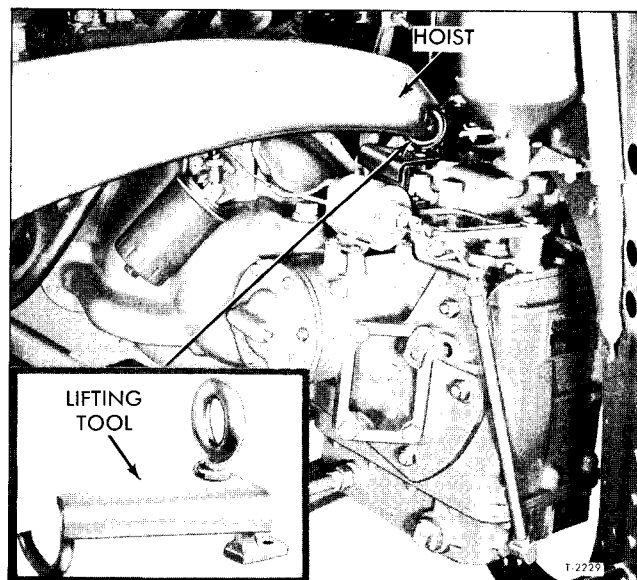

Figure 12—Removing Transmission with Hoist and Lifting Tool
7. Attach hoist to transmission using suitable lifting tool (fig. 12). Remove four bolts with tubular spacers attaching transmission to flywheel housing (from flywheel housing side). Remove remaining bolts (2) and washers attaching transmission to flywheel housing. Lifting the transmission, move straight away from engine until splines are disengaged. As transmission is being moved away from engine, rotate clutch release cross shaft to disengage release yoke from thrust ring. Turn transmission and remove from engine compartment.
6. With clutch release cross shaft yoke properly positioned between diaphragm spring and release thrust ring (fig. 12), also with oil pump gears in mesh, transmission can now be moved into proper position against flywheel housing.